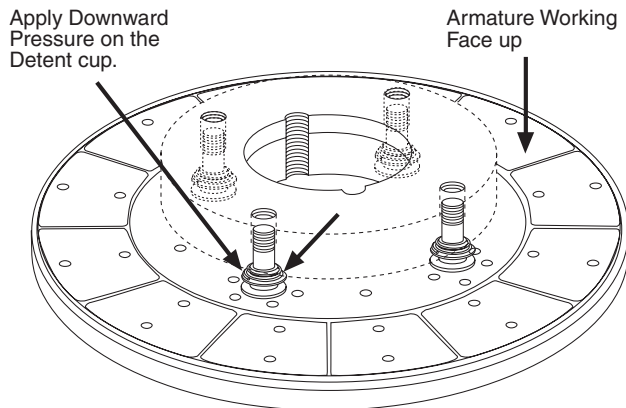

Figure 4
Step 8: Place the armature/hub assembly on a flat surface with the armature working face up and push down on each detent cup with fingers to slide the armature down until the armature can't be pushed down any further, as shown in Fig. 4.